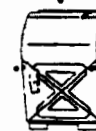

Figure 18
1. Remove two self-tapping screws from the frame cover underneath the snow thrower. Refer to Figure 18.
3. Tip the snow thrower up and forward, so that it rests on the housing. Remove two self-tapping screws from the frame cover underneath the snow thrower and move the frame cover away. See Figure 18.
5. Tip the snow thrower up and forward, so that it rests on the housing. Remove two self-tapping screws from frame cover underneath the snow thrower and move the frame cover away. Refer to Figure 18.